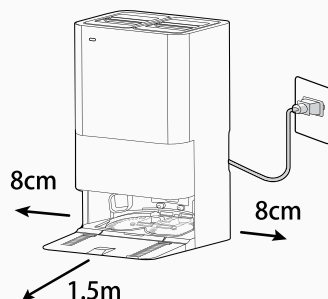

Fig. 3
3. Place the docking station on a non-reflective level floor, preferably against a wall. If the floor surface is too reflective, it will interfere with the Robot navigation system and it may have difficulties locating the docking station. Ensure there is at least 8 cm of space on both sides and at least 1.5 m of open area in front [Fig. 3]